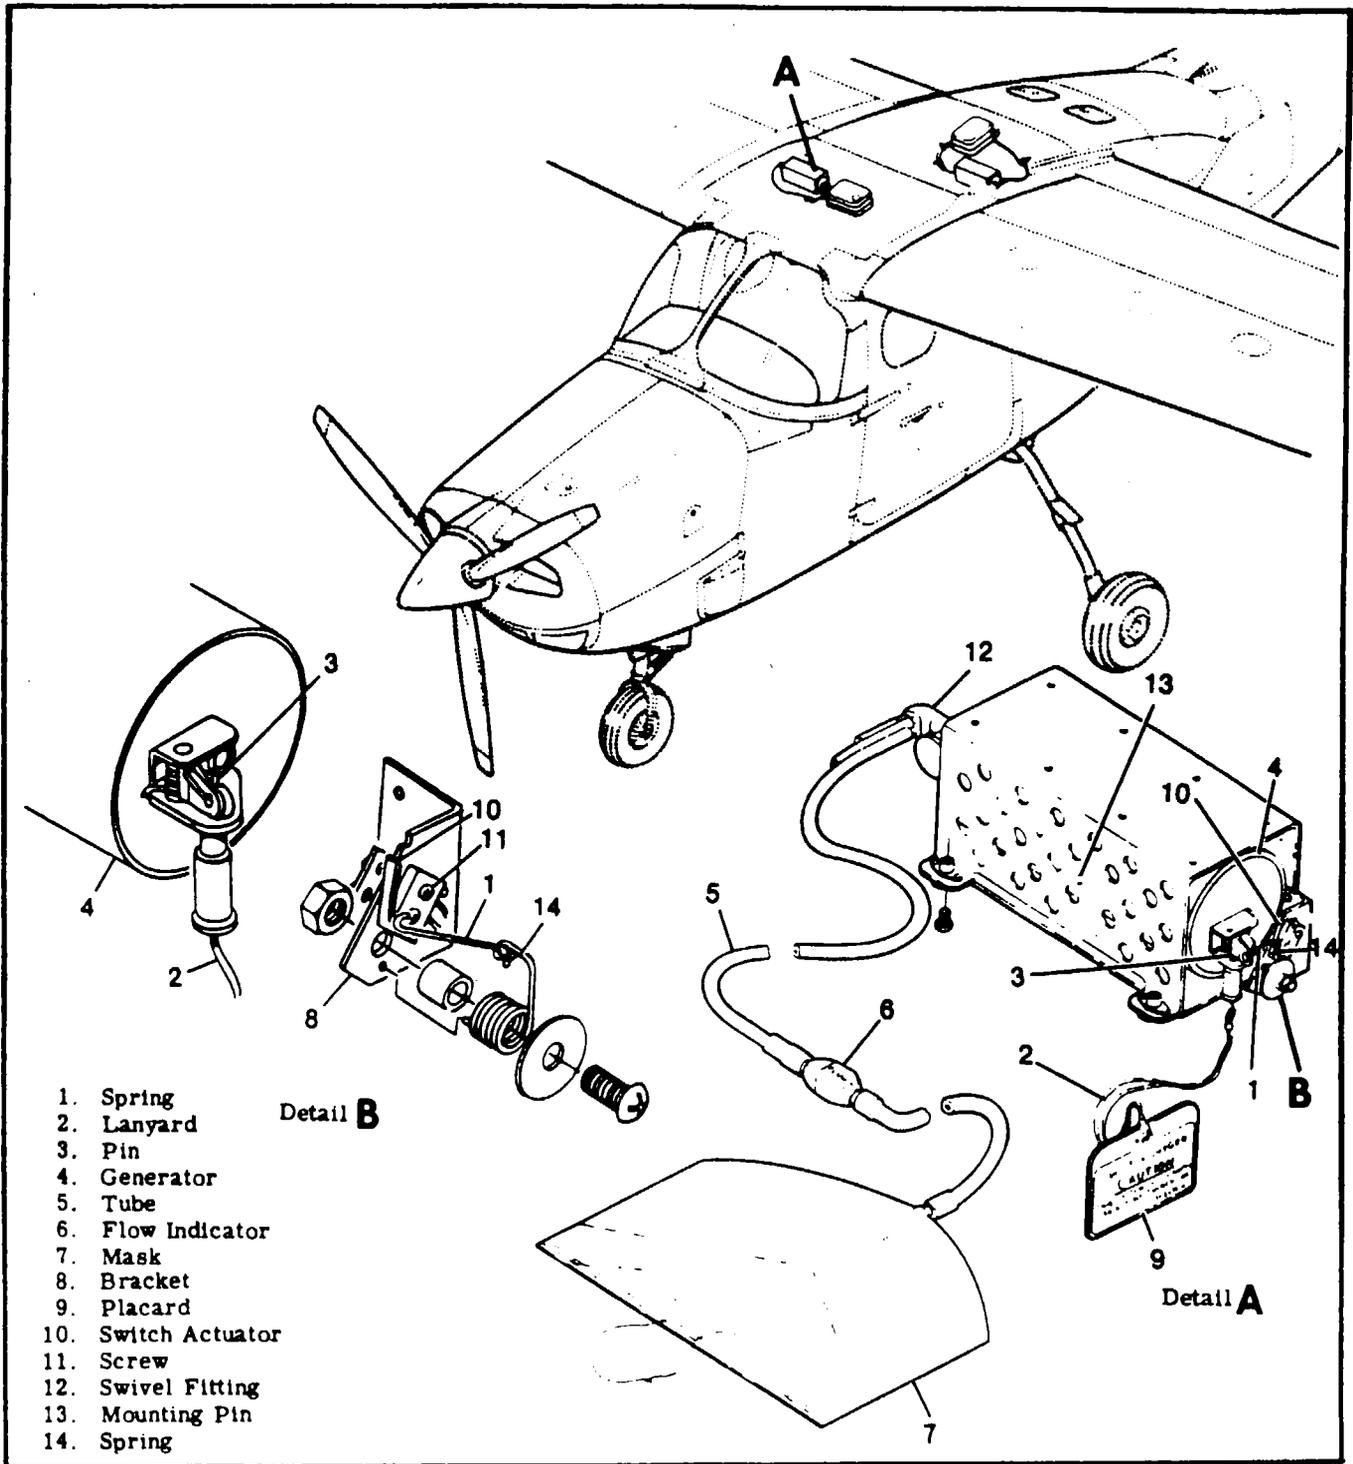

Figure 15-7. Emergency Oxygen System.
15-55. REMOVAL OF OXYGEN GENERATORS AND MASKS. (See figure 15-7.)
c. Set spring-loaded ignitor firing mechanism to loaded position and connect indicator light mechanism. (Refer to figure 15-7 and paragraph 15-34.)
15-57. OXYGEN SYSTEM INDICATOR LIGHT SWITCH ADJUSTMENT. (See figure 15-7.)